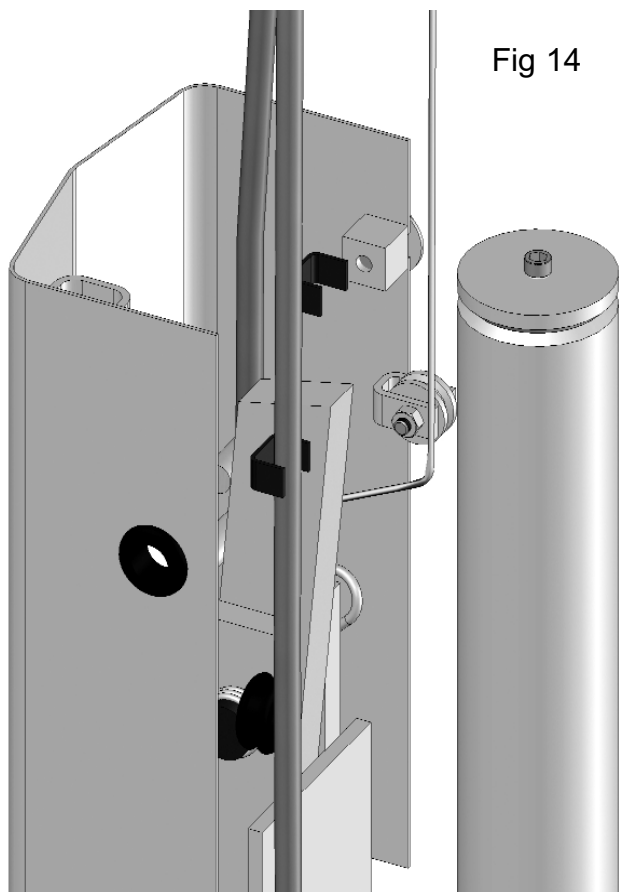

Fig 14
3. Route the cable under the pulley and take it up to the Top Trough. (Fig 14)